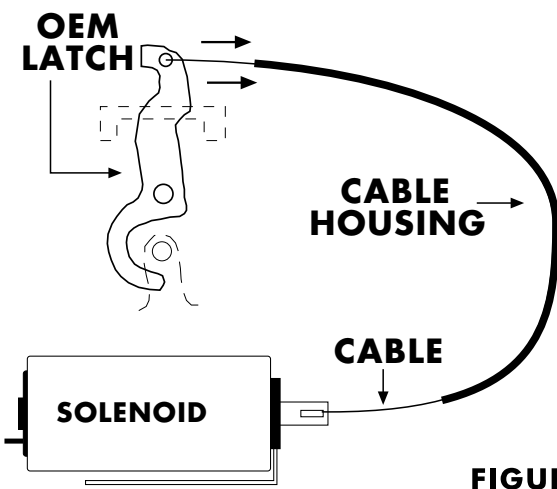

FIGURE 1
3. Using the hex bolts mount the solenoid to a clean piece of metal on the door. Ideally you want to mount the solenoid so you have a direct pull from the door latch to the solenoid. If you are unable to mount the solenoid with a direct pull, relocate the solenoid to best fit your door panel. In some cases you will need to use the cable extension kit (SVAEX) to redirect the cable from the latch to the solenoid. (figure 1)